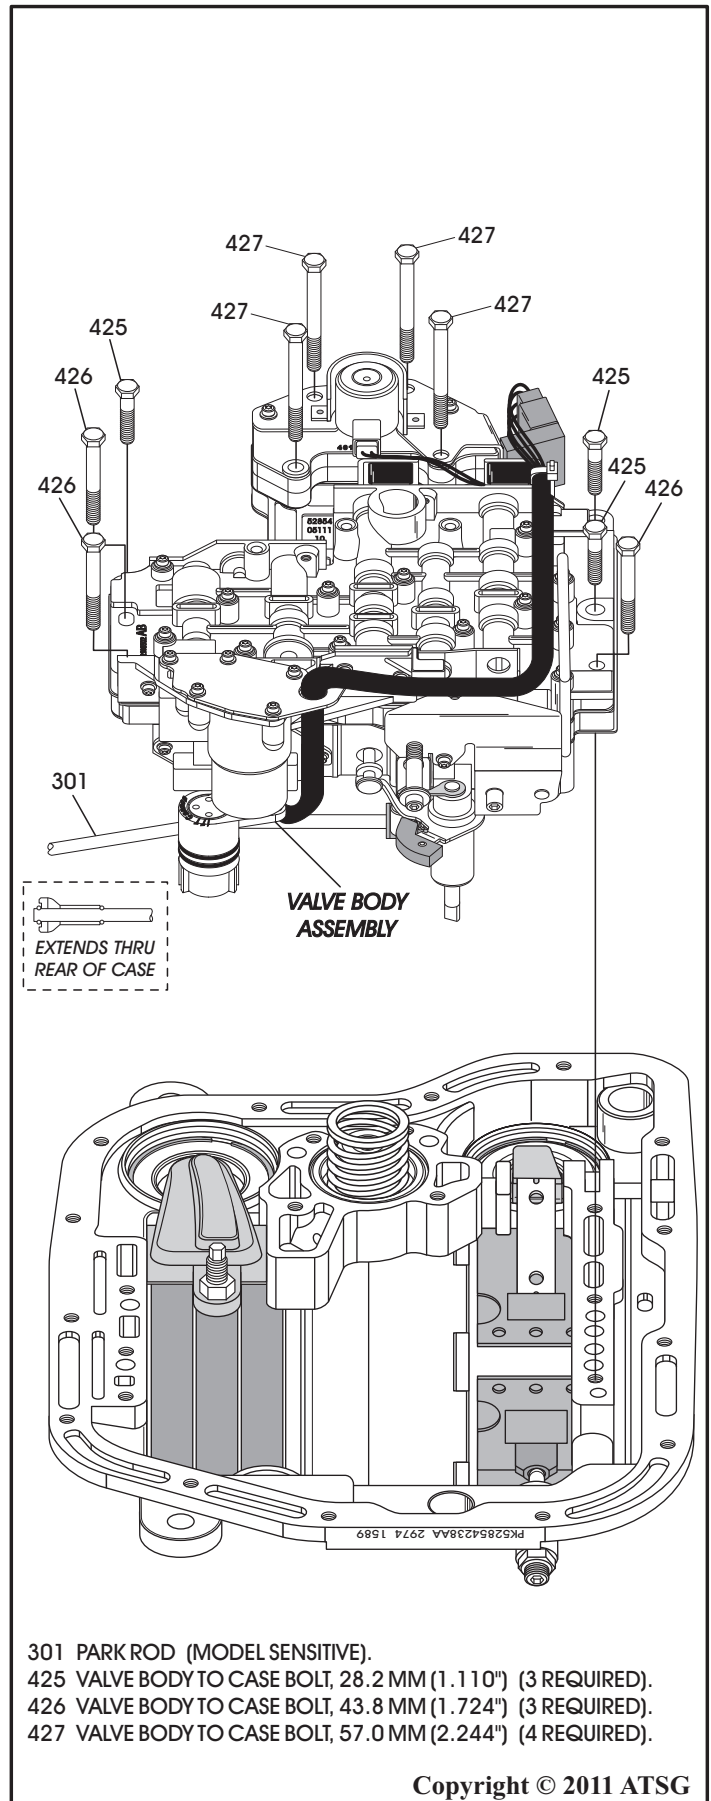

Figure 71
26. Remove the 10 valve body to case bolts, as shown in Figure 71.
**Note:** Length and locations are shown in Figure 71.
27. Remove the valve body assembly from case by pushing on case connector, and at same time lifting up on valve body (See Figure 71).